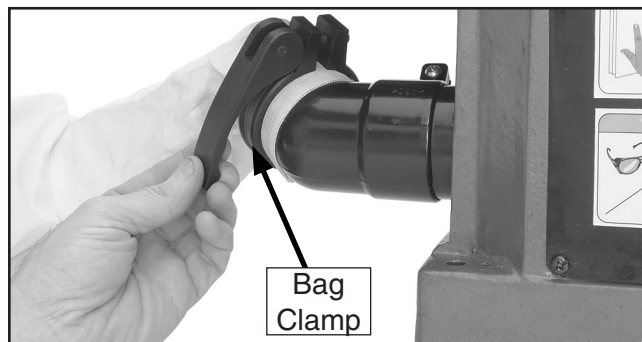

Figure 22. Attaching the dust collection bag.
2. Slip the bag clamp over the collection bag, then attach the collection bag to the chute and clamp it, as shown in **Figure 22**.